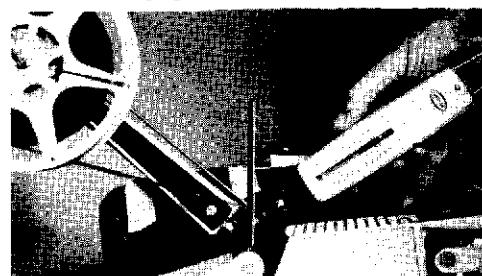

Figure 3-29a. Using Film Tension Gage (p/n T-38000-S)
- Film Tension is adjusted with the top nut under the spring using Film Tension Gage (P/N T-38000-S). See Fig. 3-29a.